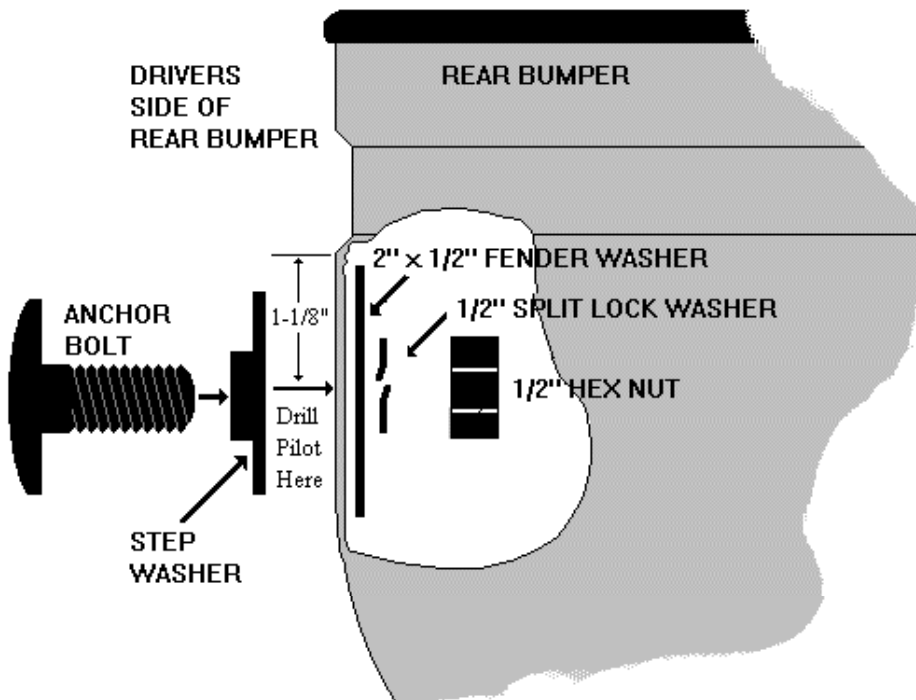

Fig. 4
5. When loading camper, slide the angled tie down coupler (Fig. 4) over the anchor bolt and insert turnbuckles into the eye of the coupler.